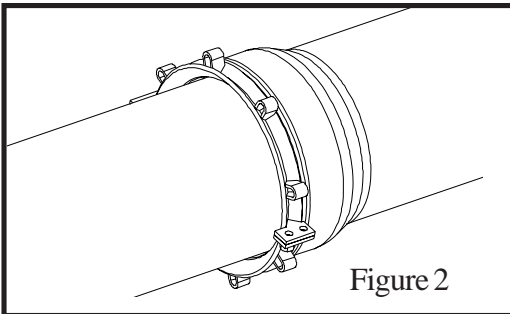

Figure 2
- Assemble Spigot Ring onto pipe. (See Figure 2)
- Assemble two flange halves on each side of the bell with the beveled gasket-sealing surfaces facing the bell. Connect flange halves by installing cap screws in the side flanges. Tighten screws. (See Figures 2&3)